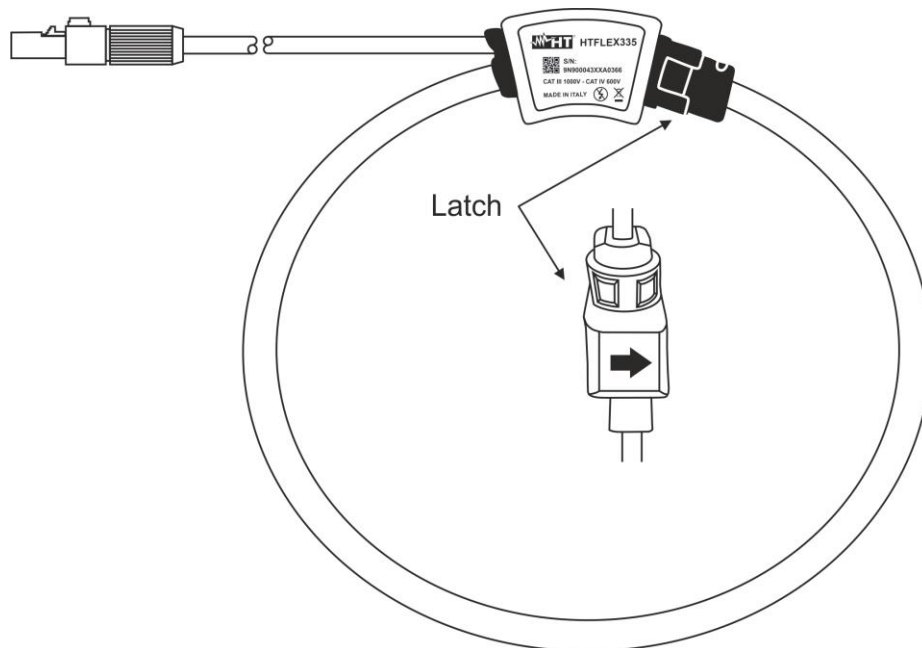

Fig. 2: Flexible clamp transducer description
The lightweight and flexible clamp is a current probe that may be wrapped around most conductors. The flexible head has a preset bend that allows the transducer to be more easily operated around the conductor (see Fig. 2). Its application versatility and insulation rating clearly distinguishes the flexible clamp transducer from other current measuring methods. It is made of non-ferrous materials, minimizing any circuit loading due to magnetic influence.
The current flexible clamp was designed to allow the operator to connect this device around a conductor without disconnecting it. Even though the current probe output is AC, there are instances where the user wishes to orient the transducer to get proper polarity at the output terminals (e.g. active power measurements). This is done by installing the transducer around the conductor with the molded-in arrow on the latch (see Fig. 2) pointing to the direction of conventional current flow. Conventional current flow is defined as current flowing from the positive to the negative potential. When a three-phase plant is under test, the correspondence must be respected between volt probe of measuring instrument connected and clamp measuring the same phase.
1. Wrap the coil around the conductor, joining the two ends of the head by respecting the arrow on the rear part of the closing device (see Fig. 2) which indicates the direction of the current that by convention is from the generator to the load